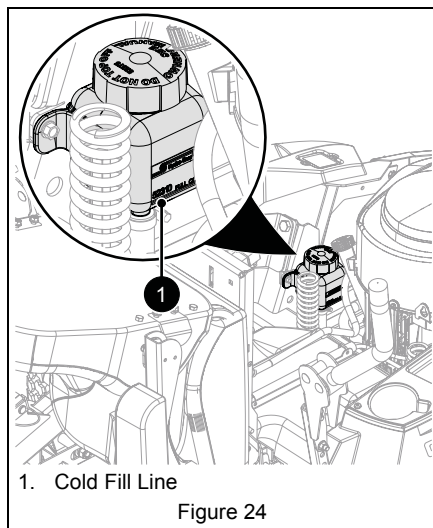

Figure 24
2. Check oil level in expansion tanks. Oil should reach the cold fill indicator mark. See Figure 24.
- b. Fill expansion tanks with 15W-50 synthetic motor oil until oil reaches the cold fill indicator mark. See Figure 24.